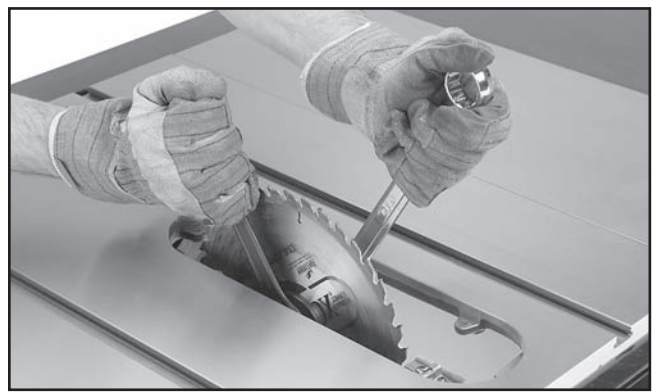

Figure 2. Loosening arbor nut.
5. Re-install the arbor flange and the arbor nut, then tighten them against the blade with the wrenches included with the saw, as shown in Figure 2. DO NOT overtighten.